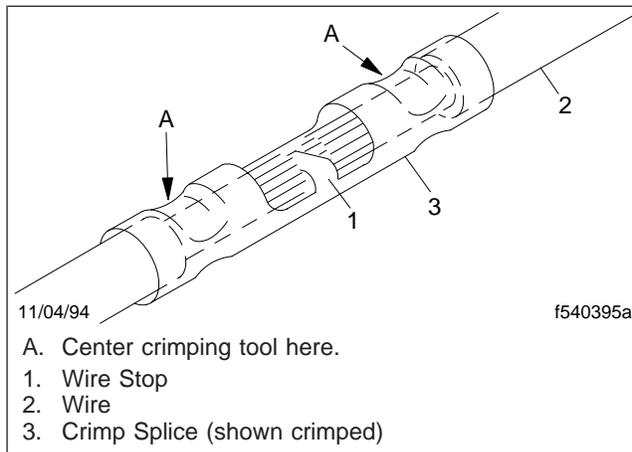

Fig. 2, Centering the Crimping Tool
4. Using a suitable crimp tool and a crimp splice from the kit, crimp the ends of the wire as follows (see Fig. 2):